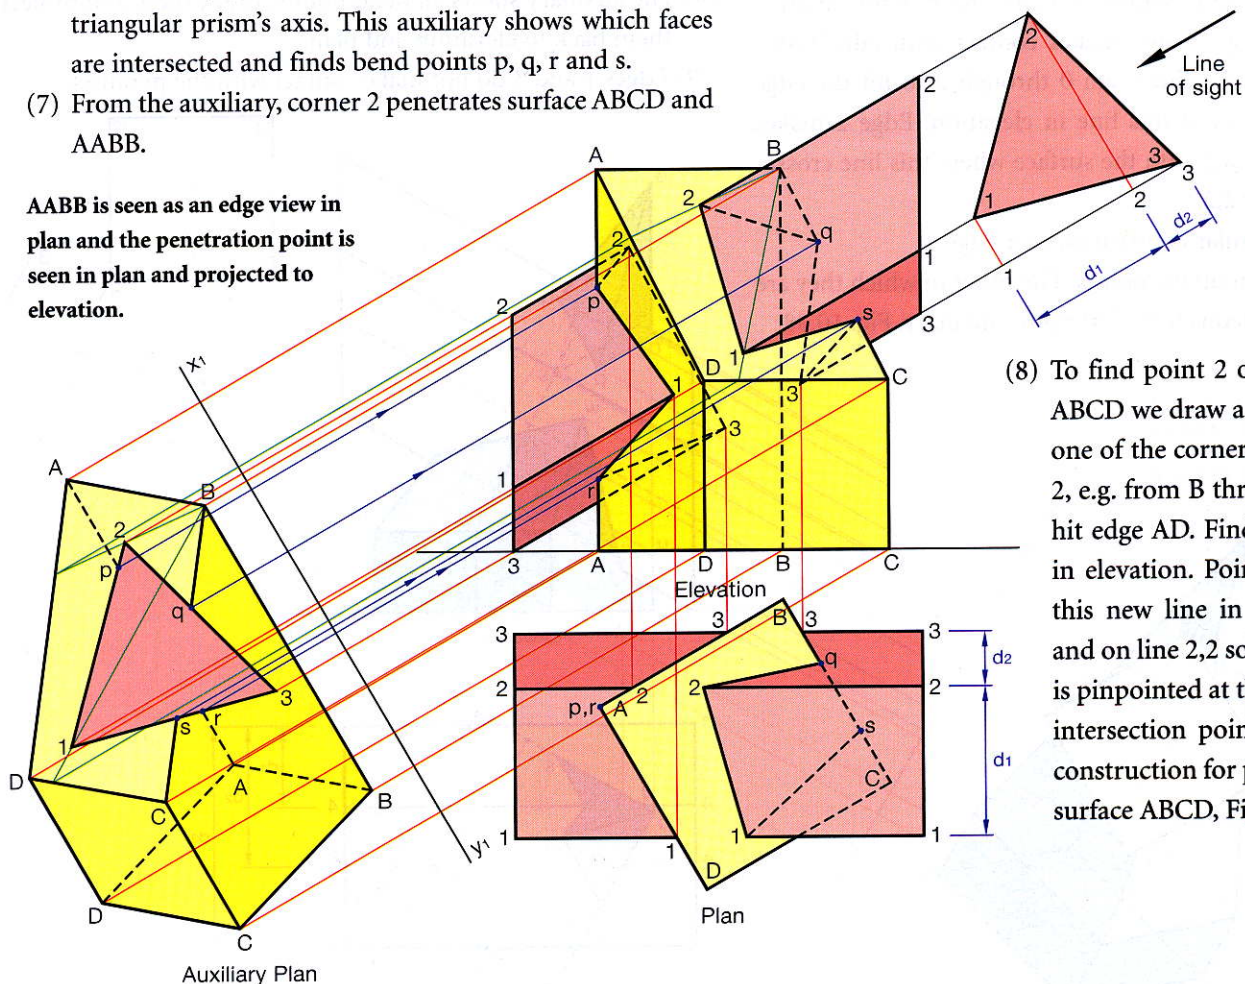

Fig. 10.36
- (8) To find point 2 on surface ABCD we draw a line from one of the corners through 2, e.g. from B through 2 to hit edge AD. Find this line in elevation. Point 2 is on this new line in elevation and on line 2,2 so therefore is pinpointed at these lines' intersection point. Similar construction for point 1 on surface ABCD, Fig. 10.36.